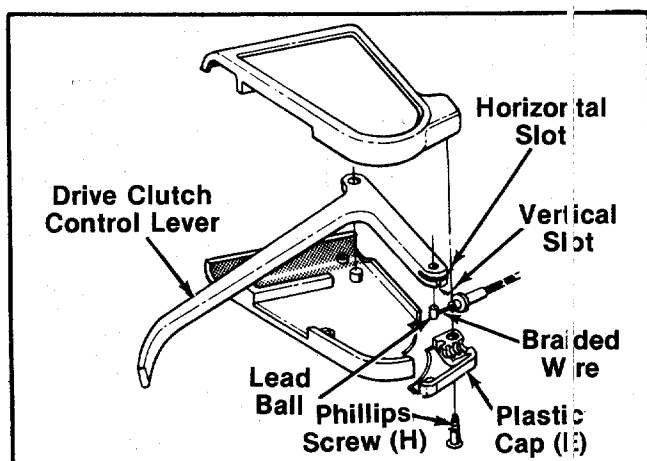

FIGURE 9.
- b. Slide the braided wire around in the horizontal slot. See figure 9.
- d. Secure the plastic cap (E) to the clutch control housing using the two phillips head screws (H). See figure 9.